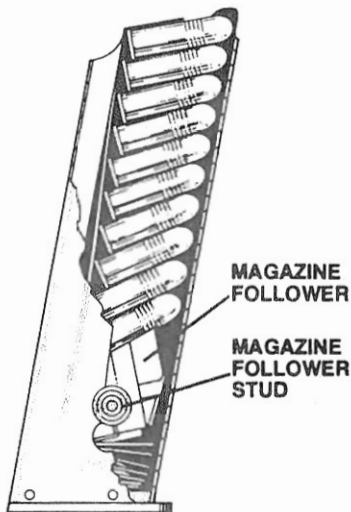

Figure 3 Loaded Magazine
3. With open end uppermost, grasp magazine (appropriate to caliber) in one hand. Place a round on magazine follower with base forward of magazine retaining lips. Press down on the magazine follower stud while pushing round down and under magazine retaining lips until base of round touches rear flat edge of magazine. Place next round on top of previous round and repeat until magazine is fully loaded with ten rounds (See Figure 3).